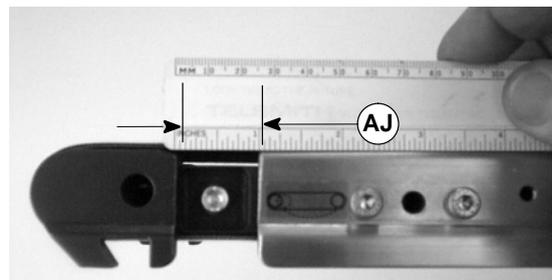

Figure 27
With V-guide seated in pulley, rotate the pinion gear (AD) counter-clockwise to a distance of 25 mm (AJ of Figure 27).